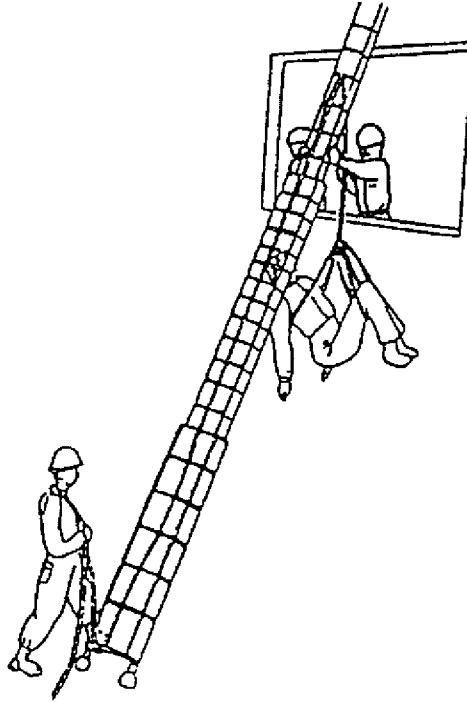

Fig. 7-3 Emergency ladder rescue
- d. Slacken the rescue rope to gently lower the victim. (Fig. 7-3)
(5) Cautions